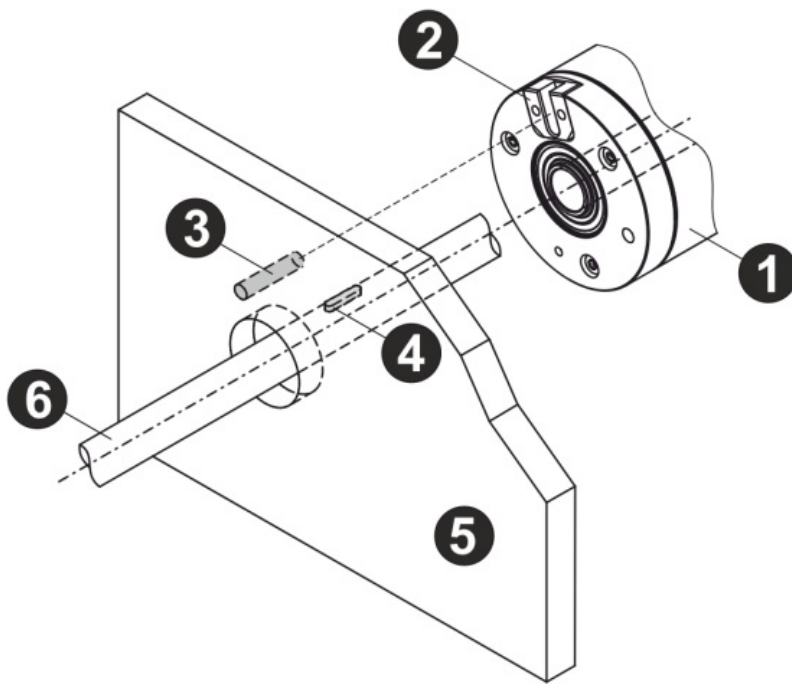

Figure 8: Mounting with dowel pin / groove insert, principle illustration
- Rotation of the measuring system housing is prevented by a locating pin on the machine and a grooved insert on the measuring system. See Figure 8.